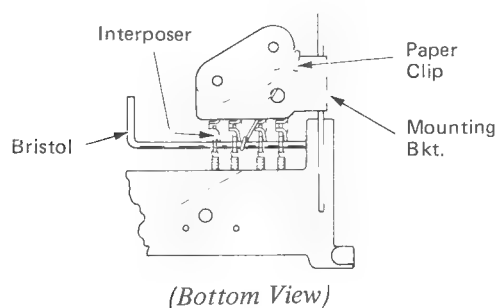

Figure 3
10. Install splined wrench through holes in interposers and attach to RH mounting bracket with paper clip (Figure 3).